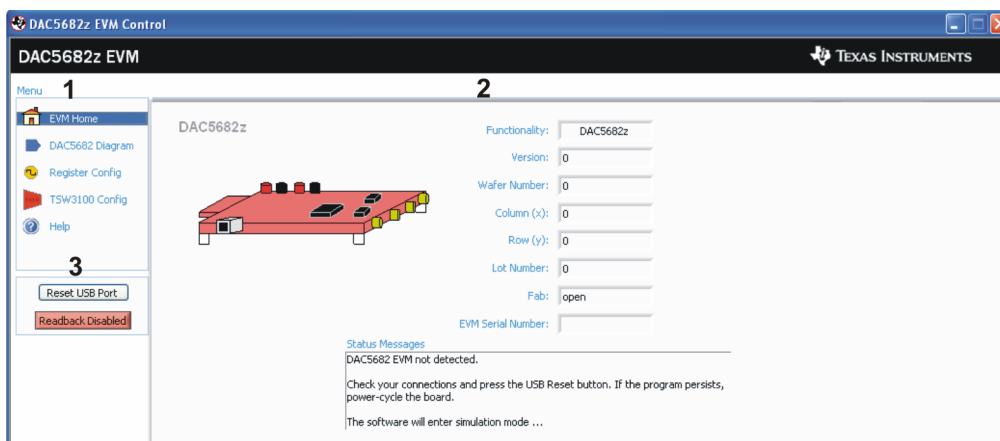

Figure 13. EVM Home Displaying EVM Status Settings
Figure 13 through Figure 16 displays some of the Menu software areas.
- **Menu**—switches between the major functionality listed in Table 1 and displayed in Figure 13.
**Note:** The numbers on Figure 13 through Figure 16 correspond to the numbered graphical user interface subareas (**X**), described in each table for the DAC5682z EVM software functionality.